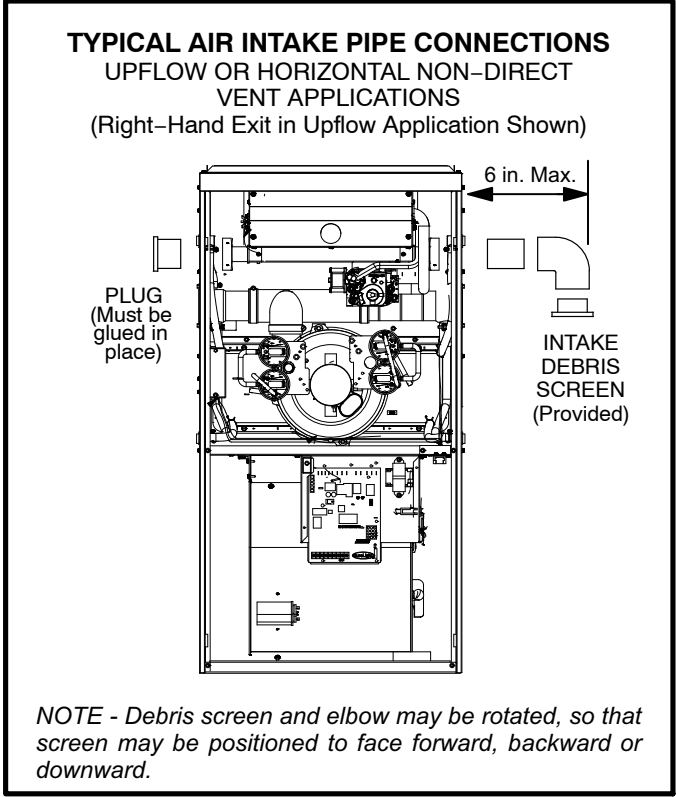

**FIGURE 25**
- 4 - Route piping to outside of structure. Continue with installation following instructions given in general guide lines for piping terminations and in intake and exhaust piping terminations for direct vent sections. Refer to figure 25 for pipe sizes.